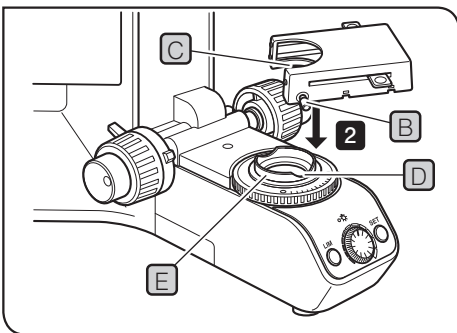

Fig.15
- 1 Fully loosen the filter cassette clamping screw **B**. (Fig.15)